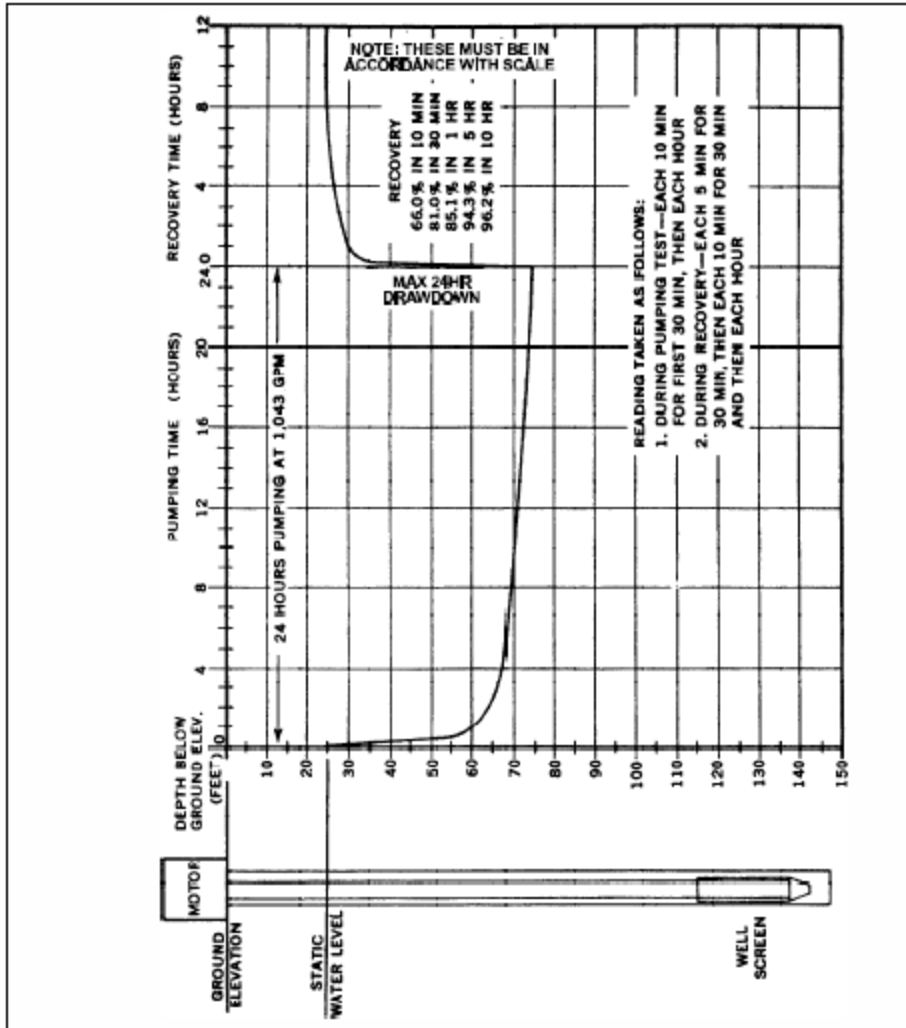

Figure 2
4.5.4 STARTING A NEW WELL PUMP. Table 9 lists startup procedures for vertical turbine well pumps. While plant operators will not generally be responsible for performing these startup procedures, they may be charged with overseeing the contractors performing the installation. Also, it is preferable that plant operators are familiar with the startup tasks. Figure 2 shows the necessary water-level checks. If problems occur, refer to the troubleshooting checklist provided in Table 10.